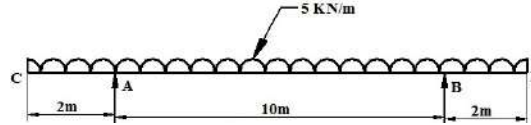

Figure 27
17. Draw shear force and bending moment diagram for the loading factor on the beam as shown in **Figure 27**.